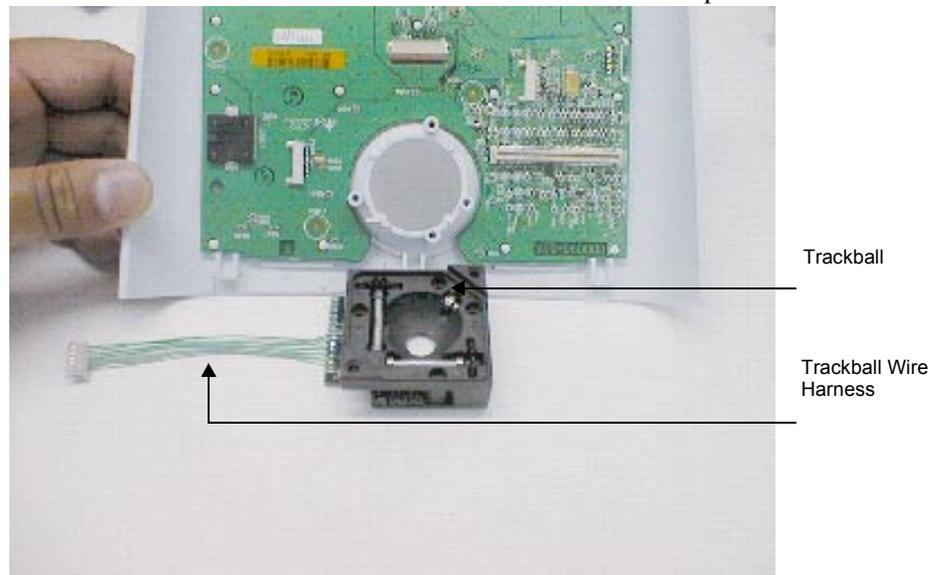

Figure 7.12 Removing the Trackball
13. Holding the Trackball in place, carefully turn the Control Panel over and allow the Trackball to drop off of the Control Panel, so as not to lose the pieces of the Trackball (Figure 7.12).
1. Use a #1 Phillips screwdriver to remove the four screws holding the top cover onto the Trackball. Discard the cover and the four screws. Be careful not to tip the Trackball, which could cause the parts from the Trackball to spill (Figure 7.12).